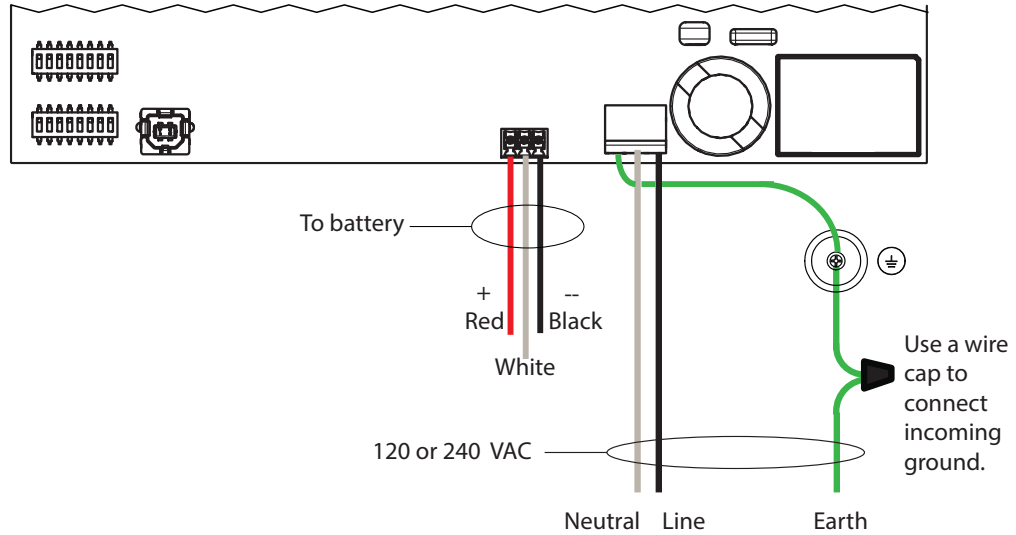

Figure 5 Zone Controller AC and Battery Power Wiring
- Connect the AC power to the terminal located on the bottom right corner of the Zone Controller main board as shown in Figure 5.
1. Plug in the battery wire plug to the battery terminals of the Zone Controller as shown in Figure 5.